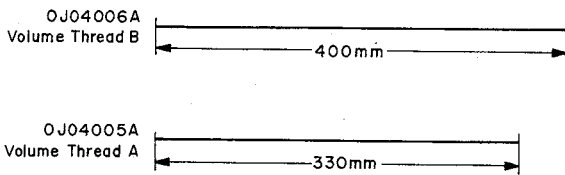

Fig. 5.2.1
- (1) Refer to Figs. 5.2.1 and 5.2.2. Make knots at the ends of Thread A (OJ04005A) and Thread B (OJ04006A) and bond them with AVDEL BOND #C2.